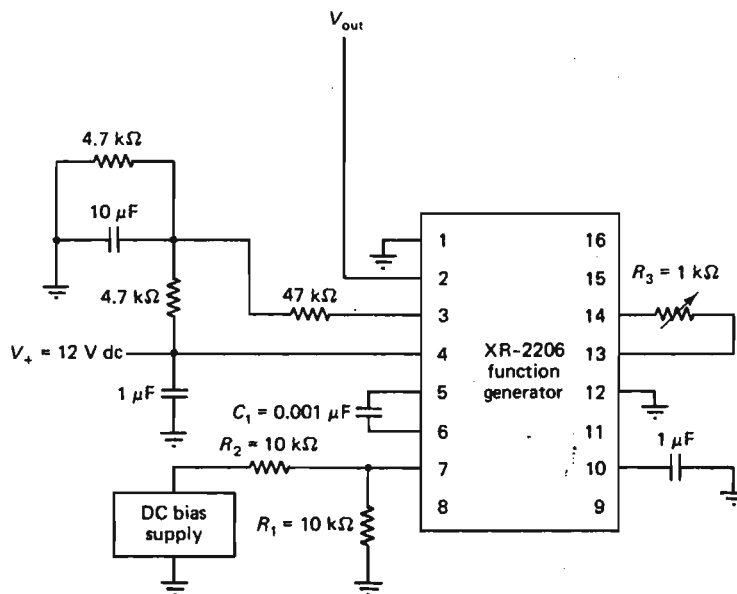

FIGURE 9-4 XR-2206 Function generator sweep frequency operation.
In this section the operation of the XR-2206 function generator as a sweep-frequency oscillator is examined. The schematic diagram for the sweep-frequency oscillator circuit used in this section is shown in Figure 9-4. The frequency of oscillation of the XR-2206 function generator is proportional to the total timing current (I_T) drawn from pin 7. Pin 7 is a low-impedance point that is internally biased at +3 V with respect to pin 12 (ground). The output frequency varies linearly with timing current over a range of current values from 1 μA to 3 mA. Thus, the output frequency can be controlled by applying an external voltage (V_C) to the selected timing pin as shown in Figure 9-4. In essence, the VCO performs voltage-to-frequency conversion.
- 1 Construct the sweep-frequency oscillator circuit shown in Figure 9-4.